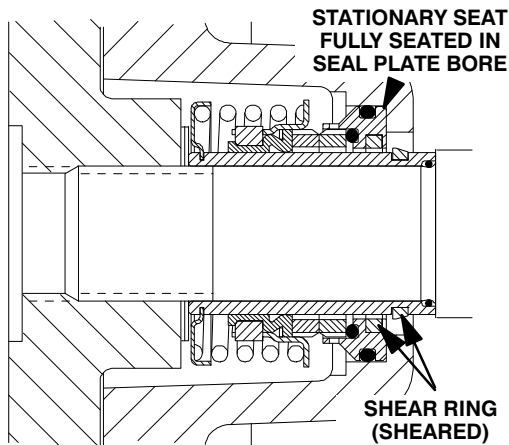

**Figure 5. Seal Partially Installed**
Clean and inspect the impeller as described in **Impeller Installation and Adjustment**. Install the full set of impeller shims (2) provided with the seal, and screw the impeller onto the shaft until it is seated against the seal (see Figure 5).